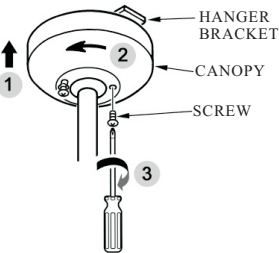

FIG.10
- 4. Mount the canopy on the hanger bracket and tighten the screws.(See fig.10)